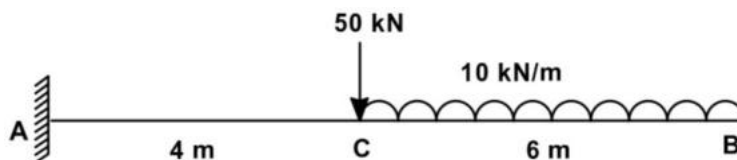

Figure-2
(1) Circular cross section (2) Symmetric 'I'-Section **03**
- (c) For the beam shown in **Figure-2**, calculate the maximum Bending stress induced at a section. Take beam cross section 300mm (width) x 600mm (depth). Also, plot bending stress variation across the section. **07**